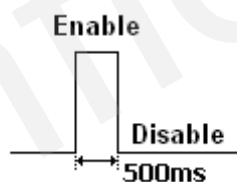

Figure 3: Waveform 2
- ✧ <Duration>: Please refer to Figure 3, Figure 4 and Figure 5. Unit is 100ms.
- ✧ <Toggle Times>: Please refer to Figure 3, Figure 4 and Figure 5.